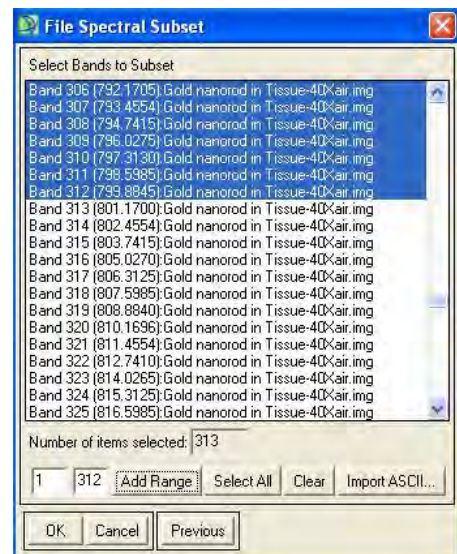

Figure 11. Select the bands by using the Add Range Boxes
6. Then in the boxes to the left of Add Range enter 1 in the far left box and 312 in the box just to the right (this band corresponds to 800 nm) (see Figure 11)